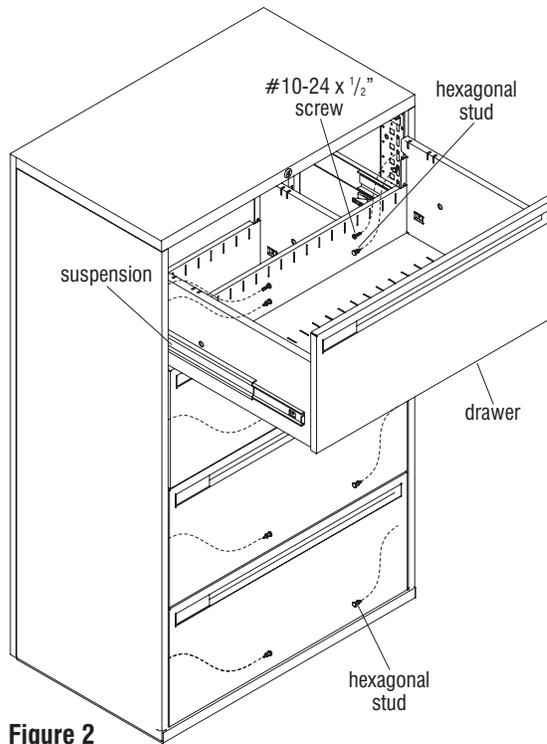

Figure 2
1. Open the top drawer fully and remove all contents for easy access (Figure 2).
2. Locate the lock bars inside the front, vertical cabinet uprights on both sides of the cabinet. Twist in and tighten a #10-24 x 1/2" machine screw into one of the upper exposed holes in both the right- and left-hand lock bars in the front vertical uprights. This secures the lock bars in place, preventing them from rattling during use with lock mechanism disabled. (Figure 2).
3. With the top drawer open, locate and remove the hexagonal studs installed into the lock bar behind the drawer back. Open each additional drawer, one at a time and remove the remaining hexagonal studs at each side in all drawer openings (Figure 2).